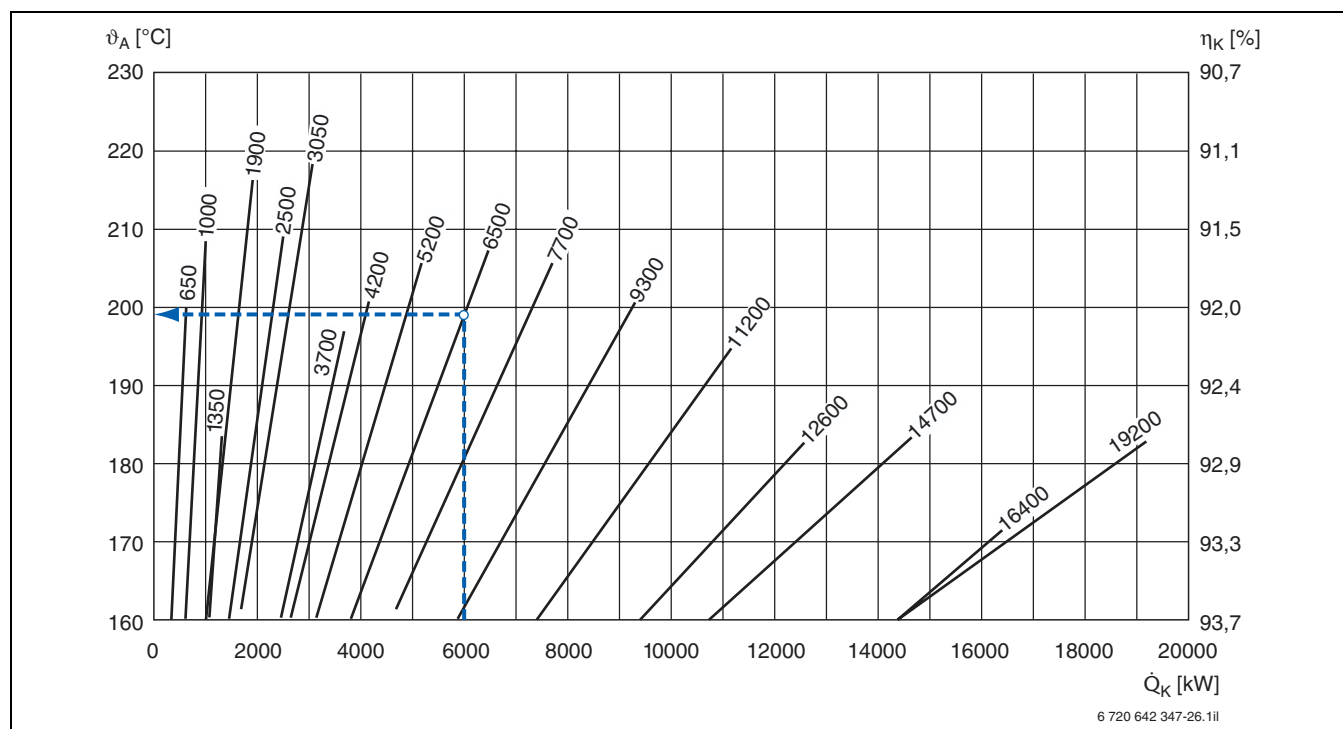

Fig. 30 Logano S825L flue gas temperatures subject to the boiler load
The flue gas temperature is the temperature measured inside the flue pipe, specifically at the boiler flue outlet. It depends on the boiler loads and the system temperature (→ Fig. 30 to Fig. 32). The minimum possible flue gas temperature should generally be used to calculate the chimney size. This will be approx. 7.5 K below the specified flue gas temperature, relative to an average boiler water temperature of 70 °C.
The flue gas temperature depends on the average boiler water temperature. The flue gas temperatures in the graphs in Fig. 30 to Fig. 32 are relative to a temperature pair of 80/60 °C in accordance with EN 303, i.e. the average boiler water temperature is 70 °C (for conversion to other temperature pairs → Tab. 32).
- Flue gas temperature read off  $\vartheta_A = 198$  °C (→ Fig. 30)